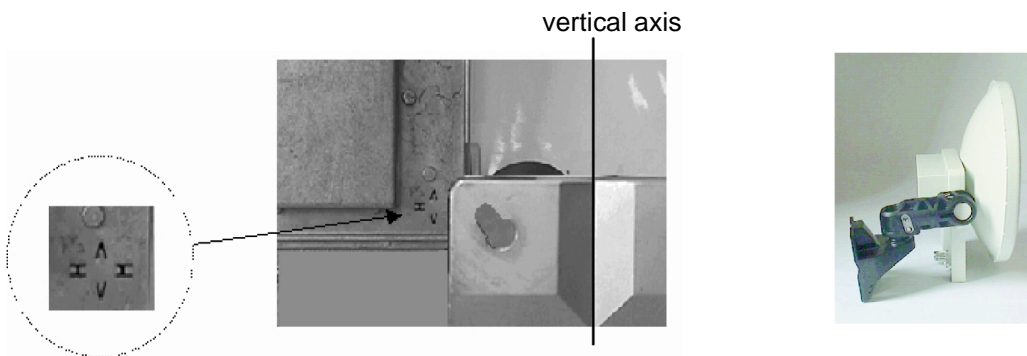
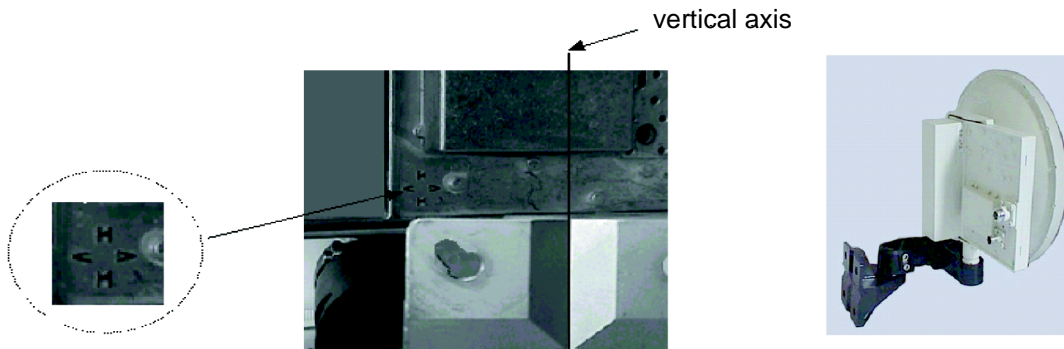

Figure 12 – Vertical Polarization
Figure 13 – Horizontal polarization
8. Install and secure the RT unit on the support arm. Check on polarization indicator that the polarization assembly is correct (cf. *Figure 12 – Vertical Polarization* and *Figure 13 – Horizontal polarization*).
5. Install and secure the RT radio unit with its antenna on the support arm. Check the polarization indicator to check correct polarization (cf. *Figure 12 – Vertical Polarization* and *Figure 13 – Horizontal polarization*).